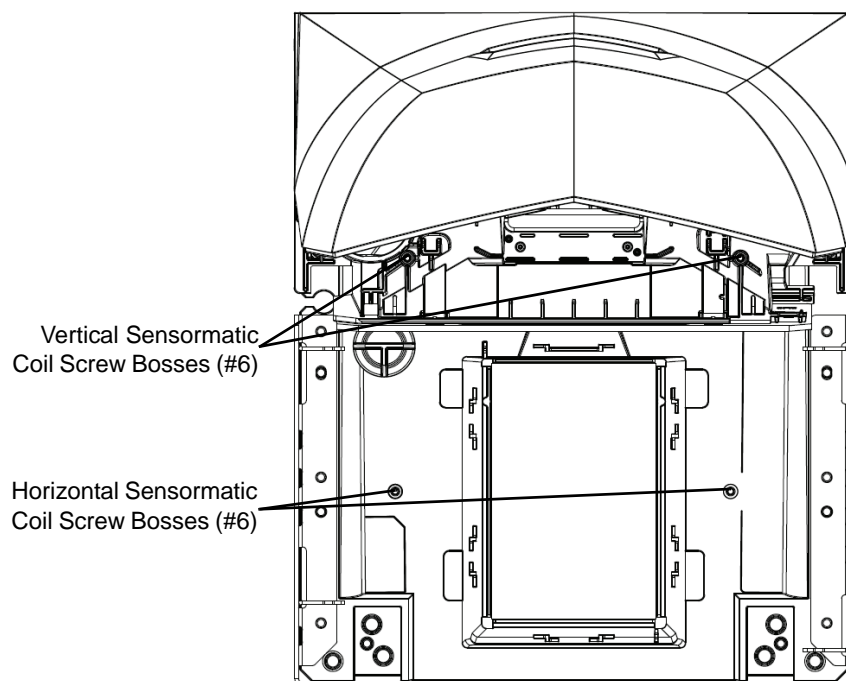

Figure 3-43 Sensormatic Coil Screw Holes (Platter and Tower Bezel Removed)
- e. Secure each coil with two screws (see Figure 3-43 on page 3-34).